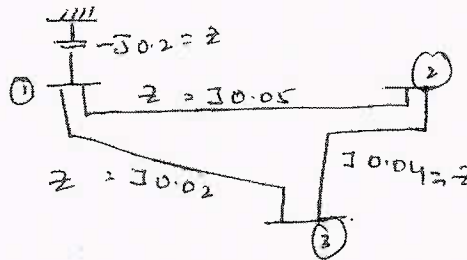

Fig.Q1(b)
- b. For the power system shown in Fig.Q1(b), obtain Y_{bus} using singular transformation. (10 Marks)